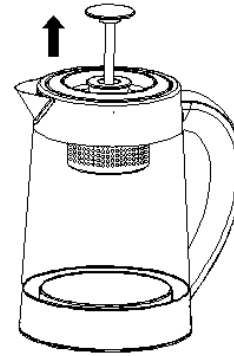

Fig. 8
2. After adding water, place the lid properly; lift up the tea bag (Fig. 8) after covering the lid and then place the kettle on the base; insert the power plug into the corresponding power socket and then the buzzer will beep twice and all indicators is on for one second, so the kettle is at the standby state if no any other operation.